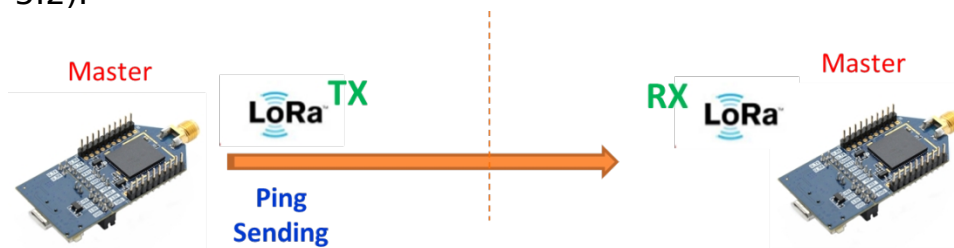

Figure 5.2
- a. While a S76S/S78S XB board boots up, it will enter ping-pong master mode by default. Therefore, one of two devices would send "Ping" signal by LoRa first and try to let another XB board to receive (Figure 5.2).